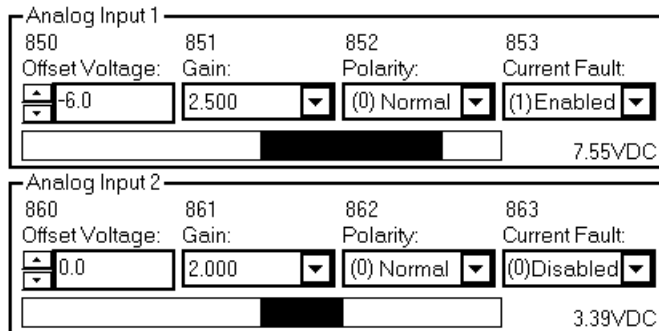

Figure 14: Analog Inputs Example
Finally, the user would set the input polarity to normal (program item 852=0), so the input is not inverted. See Figure 14.
Finally, the user would set the input polarity to normal (program item 862=0), so the input is not inverted. See Figure 14.